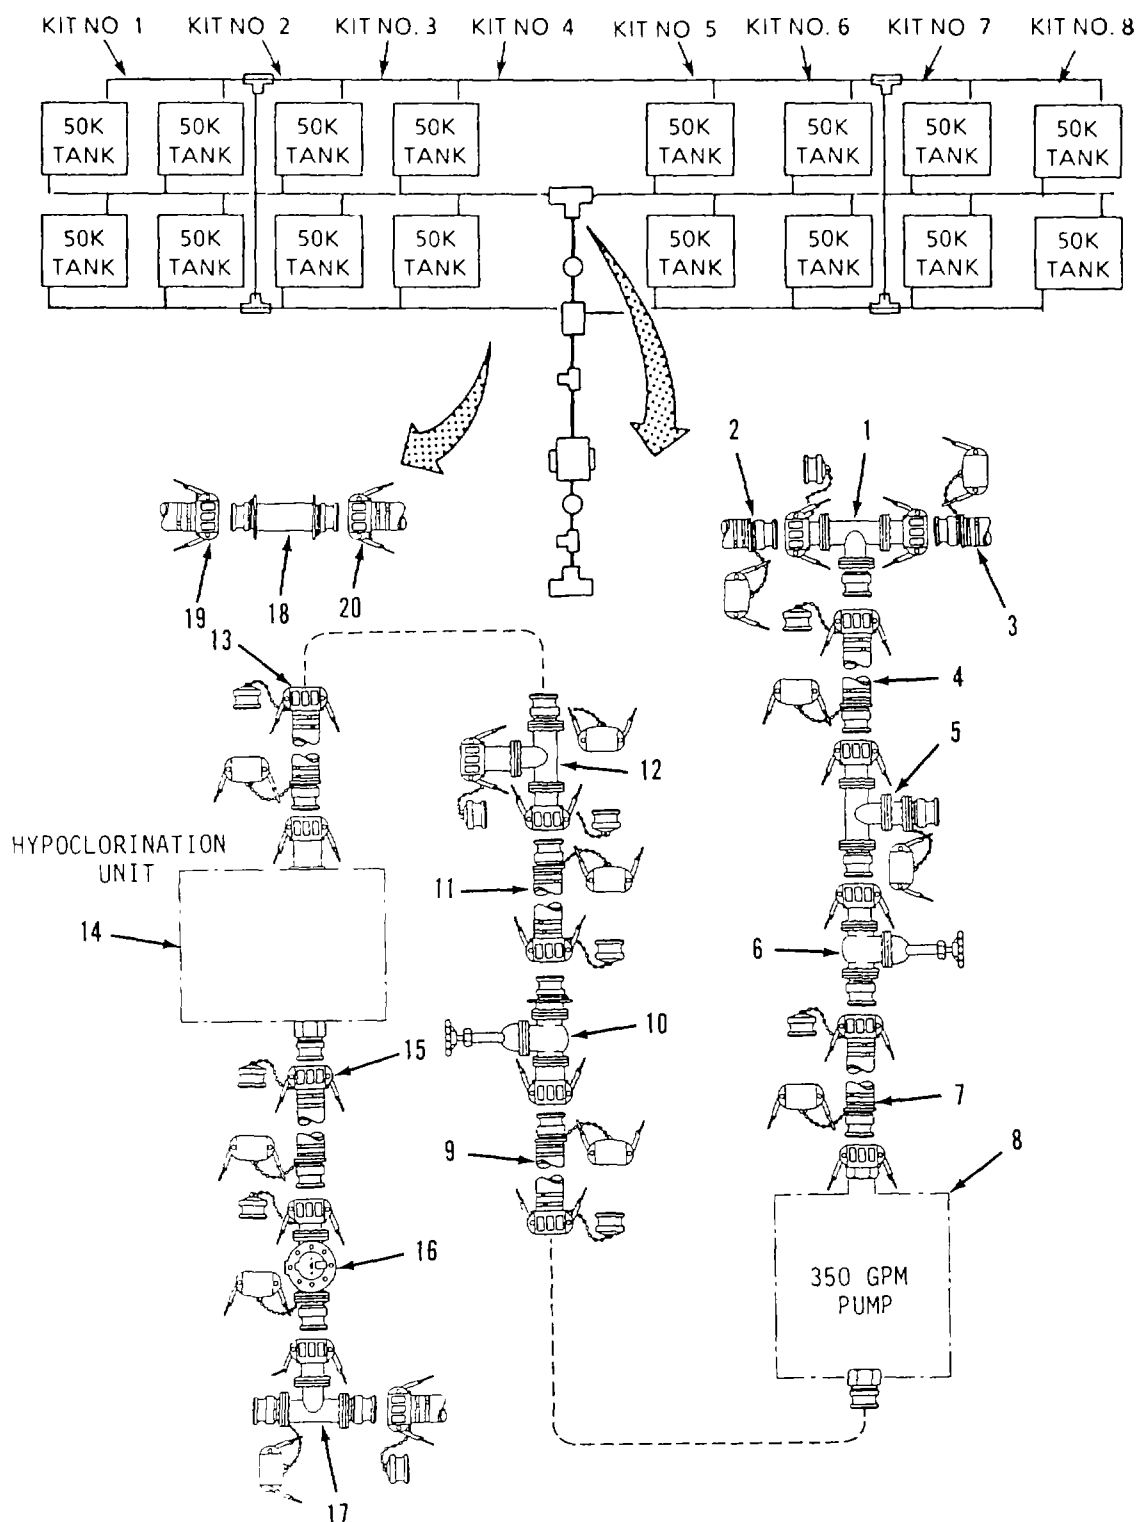

Figure 2-31. 125 Gpm Pump Connection Kit (Distribution Point) Disassembly.
- (12) Drain and allow components to dry.
- (13) Install caps and plugs on component couplings (para. 2-10c).
- (14) Roll up all discharge hoses and secure with tape.
g. Disassemble 125 Gpm Pump Connection Kit (Distribution Point). Refer to figure 2-31.